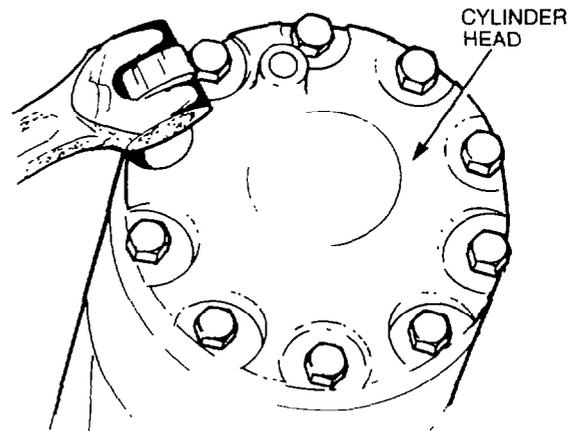

Figure 268 — Cylinder Head — Removal
- i. Remove the ten bolts securing the cylinder head to the housing (see Fig. 268), then remove the cylinder head and discard the sealing ring.